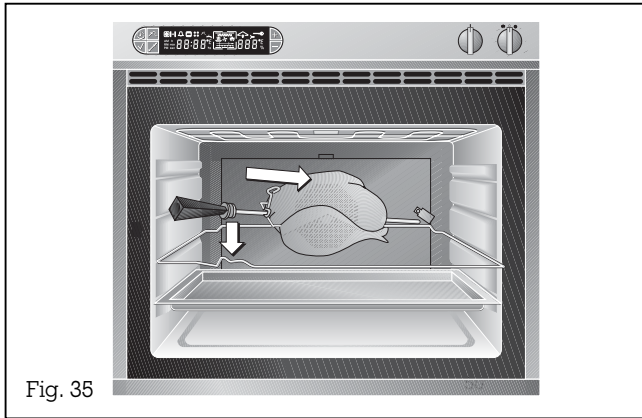

Fig. 35
- Fit the rotary spit in the rotary spit drive (Fig. 35). Unscrew the handle from the rotary spit and close the oven door.